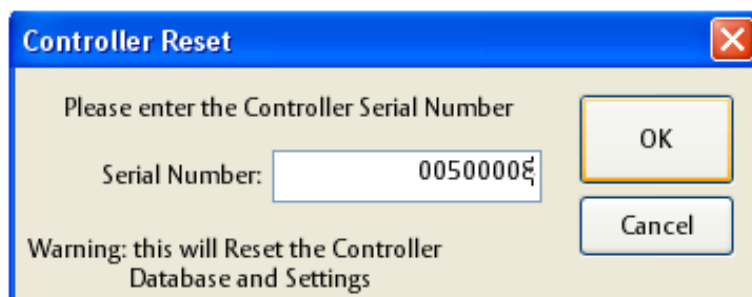

Figure 11: Controller Password - Forget Password
- If user forgets the password, use "Forget Password?" option as shown in figure 11, and enter serial number of the controller (number is located on the module and at the back of PCB Board) and click "OK" button.